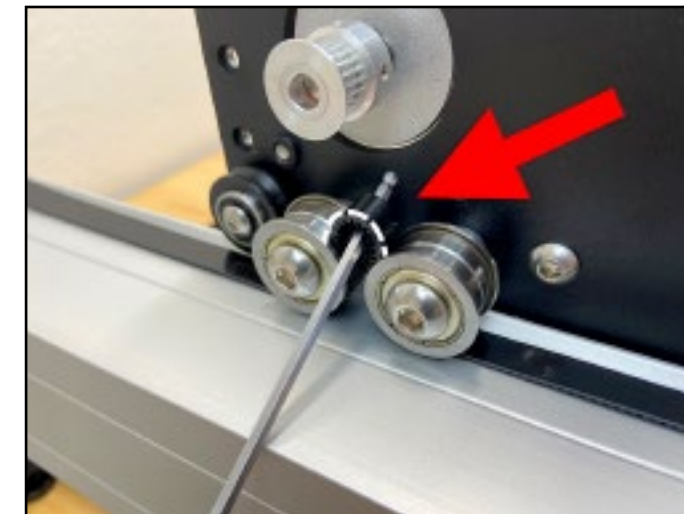

Figure 5-14
- Slide the 3mm hex key under the belt, between the two idlers, and use it as a lever against the X-rail to push a loop of belt up between the two idlers as shown in **Figure 5-14**.